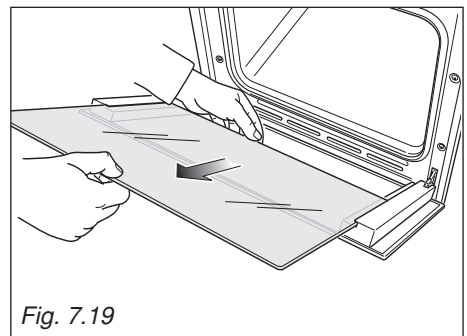

Fig. 7.19
- Gently pull out the inner pane of glass (fig. 7.19).